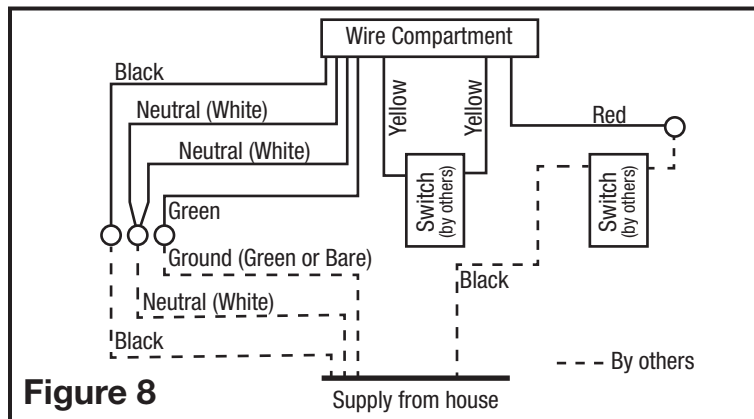

Figure 8
2. **Continuous Ventilation:** Secure the electrical wires to the housing with an approved electrical connector. For two speed fans wired for continuous ventilation, connect the White wires of the fan to the White (Neutral) wire from the power source. Connect the ground wire from the house to the green wire from the fan housing. Connect the Black wire of the fan to the Black wire (Hot) from the power source. Using a properly grounded standard duplex toggle switch (such as Leviton 5224-2W, not included) connect the Black wire from the supply to one side of the top and bottom switch. Connect the Red wire (light) from the fan housing to the other side of the top switch. Using a second properly grounded standard duplex toggle switch, connect the Hot Yellow wire from the fan to the input of the switch. Connect the second Yellow wire from the fan to the output side of the switch. Closing the switch will change from normal to high speed (Figure 8).